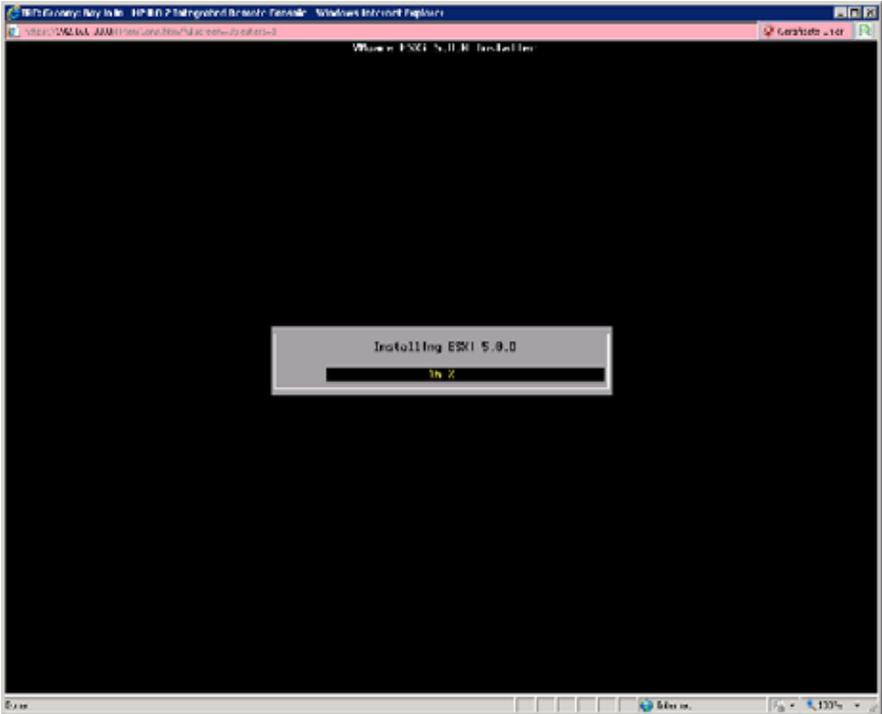

Figure 11 ESXi 5.0 OS and Drivers Loading
**Step 10** Press **F11** to confirm that you want to continue the install. When you press **F11**, the OS and Xsigo host drivers are loaded onto the ESXi 5.0 Server, as shown in Figure 11 on page 85.